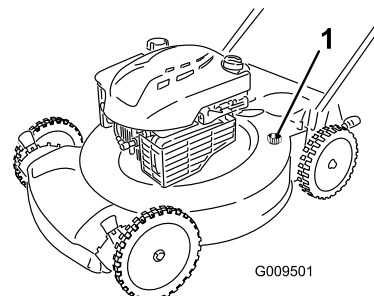

Figure 28
4. Attach a garden hose that is connected to a water supply to the washout port on the mower housing (Figure 28).